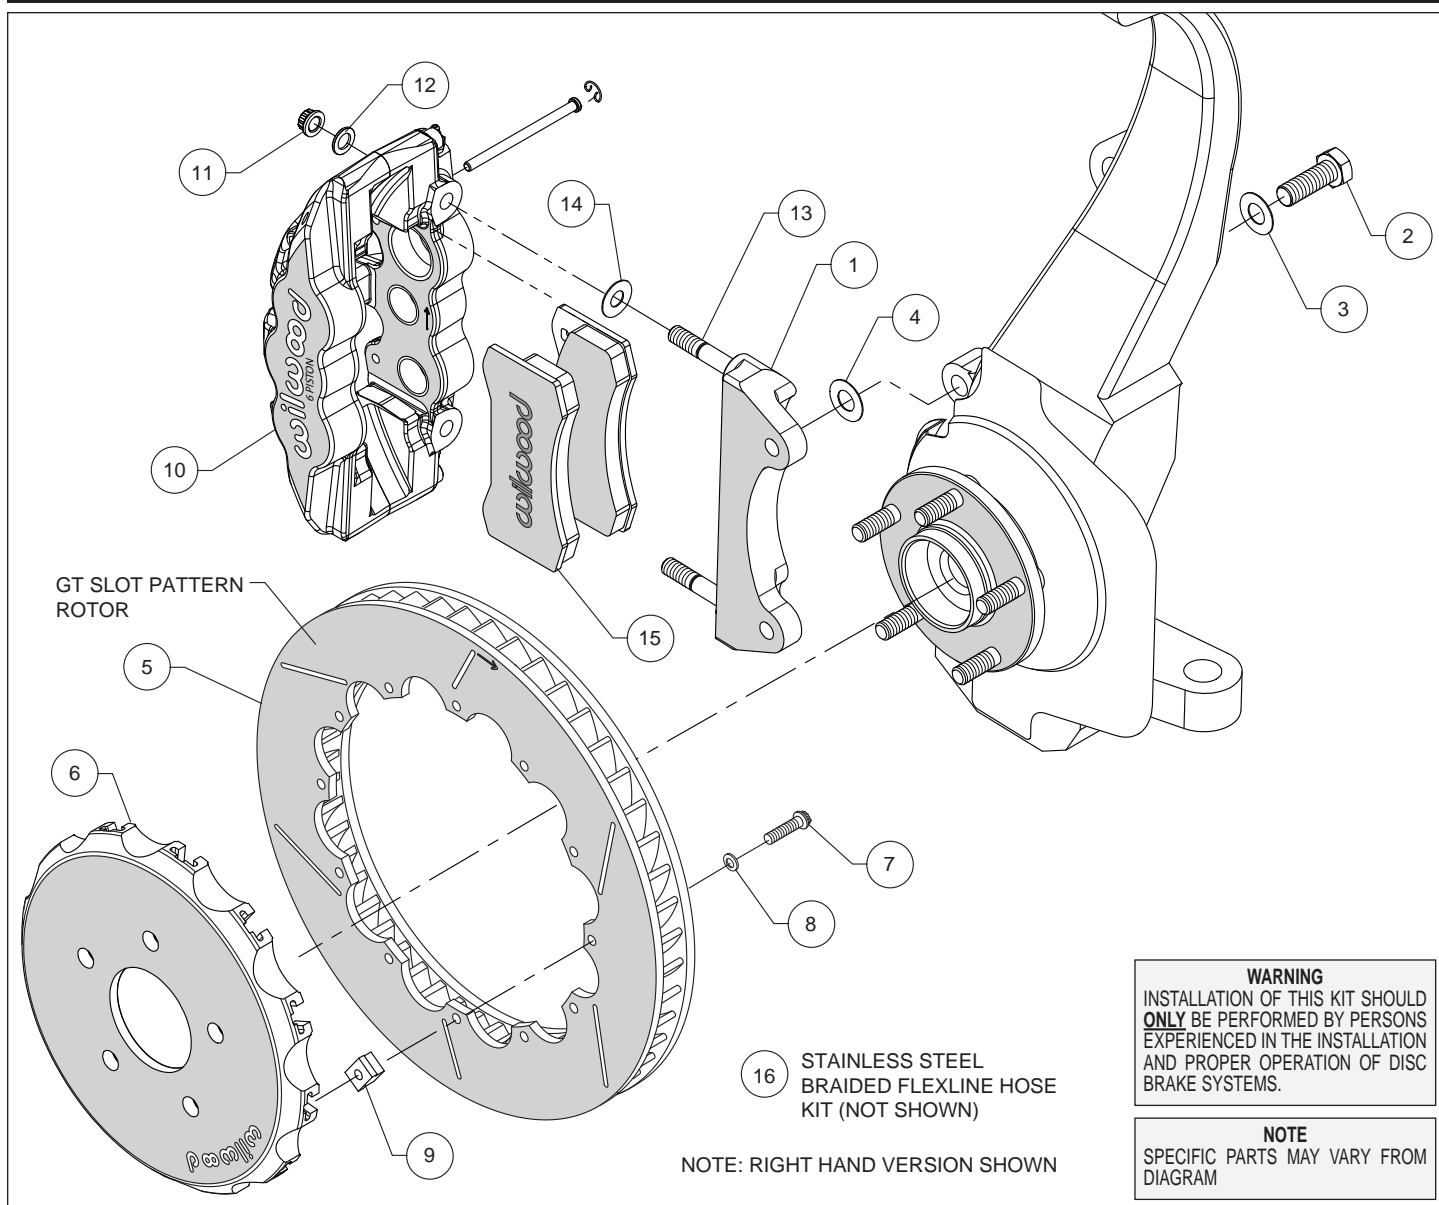

Figure 1. Typical Installation Configuration
**Assembly Instructions** (numbers in parenthesis refer to the parts list and Figure 1 on the preceding pages):
- The caliper mount bracket (1) should initially be installed with clean, dry threads on the mounting bolts. Orient the bracket as shown in Figure 1 and Photo 1, and install using bolts (2) and washers (3). Initially place one .029 thick shim (4) on each bolt between the bracket and upright, Figure 1. Temporarily tighten the mounting bolts. **NOTE:** The bracket must fit squarely against the mounting points on the upright. Inspect for interference from casting irregularities, machining ridges, burrs, etc. Later, after the caliper alignment has been checked, the mount bolts will be secured using red *Loctite*® 271.
- Orient the rotor (5) and the hat (6) as shown in Figure 1 and Photo 2. Attach rotor to hat using bolts (7), washers (8), and t-nuts (9), Figure 1. Follow additional instructions included with the bolt kit. Using an alternating sequence, apply red *Loctite*® 271 to the threads, and torque to 120 in-lbs. Safety wire bolts using standard 0.032 inch diameter stainless steel safety wire as shown in Figure 4. Please refer to Wilwood's data sheet DS-386 (available at [www.wilwood.com/Pdf/DataSheets/ds386.pdf](http://www.wilwood.com/Pdf/DataSheets/ds386.pdf)) for complete safety wire installation instructions.
- NOTE:** This kit contains distinct right and left hand calipers that must be mounted in a specific direction, as described below. Lubricate the caliper mounting studs (13) with lightweight oil. Initially place one .030" thick shim (14) on each stud between the caliper and the bracket, as shown in Figure 1 and Photo 3. Mount the caliper (10) onto the bracket (1) using lock nuts (11) and washers (12), Figure 1. Ensure that the caliper is mounted so the largest pistons are at the rotor exit end of the caliper, in relation to the direction of rotor rotation. Temporarily tighten the lock nuts and view the rotor through the top opening of the caliper. The rotor should be centered in the caliper, Photo 4. If not, adjust by adding or subtracting shims (4) between the bracket and the upright. Always use the same amount of shims on each of the two mounting bolts. Once the caliper alignment is correct, remove the bracket mounting bolts (2) one at a time, apply red *Loctite*® 271 to the threads, and torque to 77 ft-lbs.
- Remove the two pad retaining pins from the caliper (10) by carefully popping out the pin retaining clips and sliding out the pins. Insert the brake pads (15) into the caliper from the bottom, Figure 1 and Photo 5. With the friction material facing the rotor, secure the brake pads in place with the pad retaining pins and clips, Photo 6. Reinstall the caliper onto the caliper mounting bracket and temporarily tighten the lock nuts (11). Check that the top of the brake pad is flush with the outside diameter of the rotor, Photo 7. If not, adjust by adding or subtracting shims (14) between the caliper and the bracket. After the caliper pad height is set, torque the caliper lock nuts (11) to 47 ft-lb.